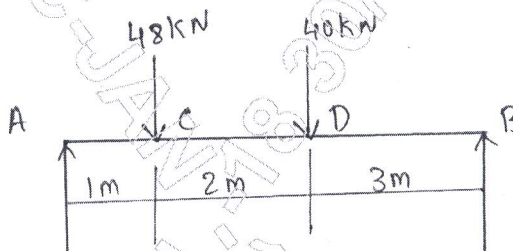

Fig. Q8
- 8 A beam of length 6m is shown in Fig. Q8.